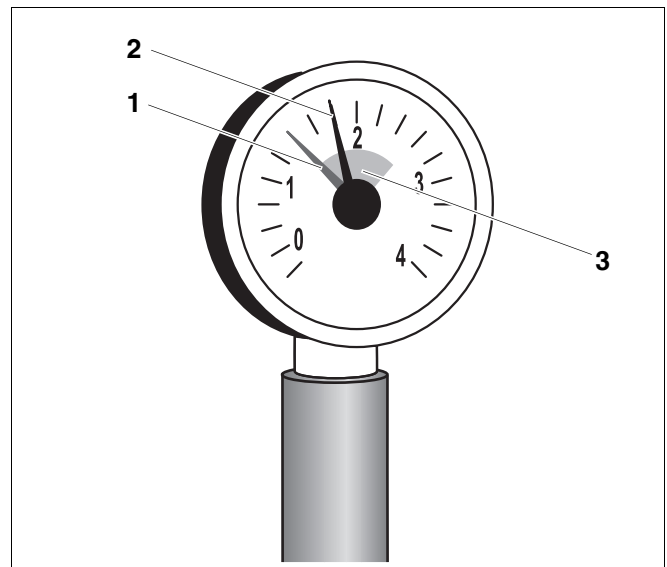

Fig. 5 Pressure gauge for sealed systems
On sealed systems the pressure gauge needle (Fig. 5, **item 2**) must be within the green range (Fig. 5, **item 3**). Set the red needle (Fig. 5, **item 1**) on the pressure gauge to the required system pressure.
- The water pressure in the system is too low, if the pressure gauge needle falls below (Fig. 5, **item 2**) the green range (Fig. 5, **item 3**). Re-fill the heating system with make-up water (see chapter 3 "Using correct fill and make-up water", page 7).